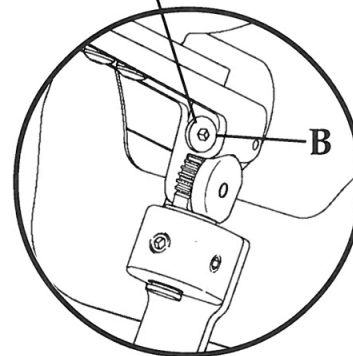

Figure 2.
- 2) Increase the abduction angle of the arm section by turning the "worm" screw (B) clockwise. (See Figure 2) This will give you room to make the remainder of adjustments.